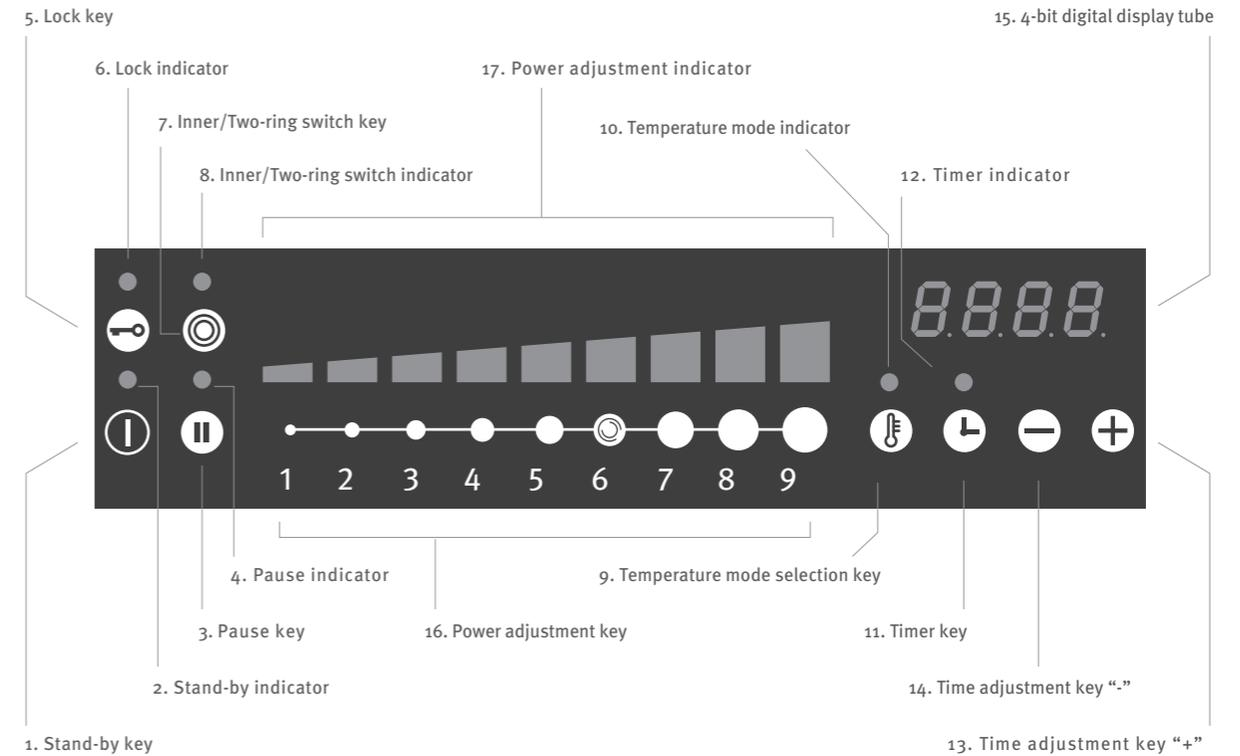

Figure 1 Control panel
**1.** Draw the points on your table top as shown in Fig.1, R5 and drill through the table top with a  $\varnothing$  10 mm drill bit.
**2.** As in Fig.1 draw the line between the points and cut out the table top.